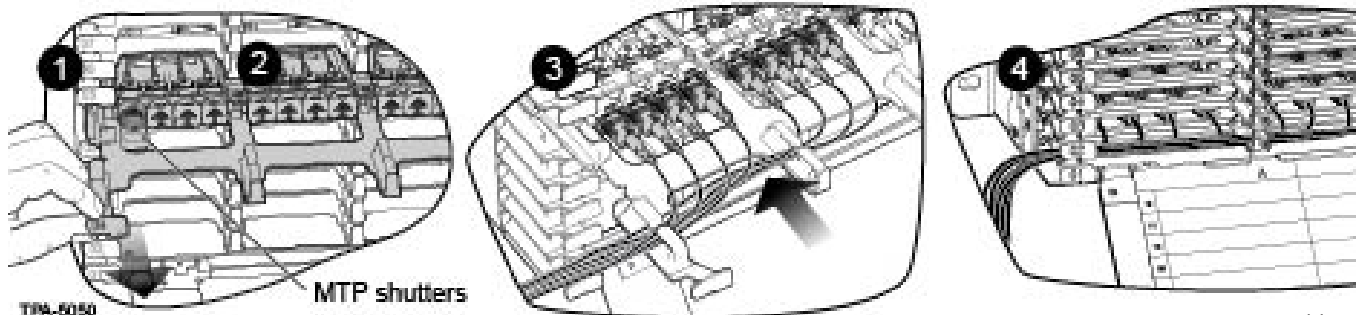

Figure 25 — Route Harness Cable
**Step 3:** Mate the connectors in the adapters (Figure 25). If MTP adapter is equipped with shutter, lower the shutter first, then mate the connectors.